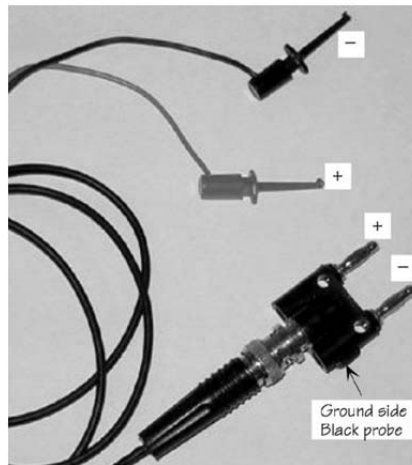

Figure 6: Banana to BNC probe
- Get a two-wire lead with red and black alligator clips on one end and a BNC connector (shiny round connector) on the other end. Attach this end to the BNC to banana adapter located in your bench drawer. Note that the adapter has a bump on one edge which represents the COM (ground) and this is shown in Figure 6.